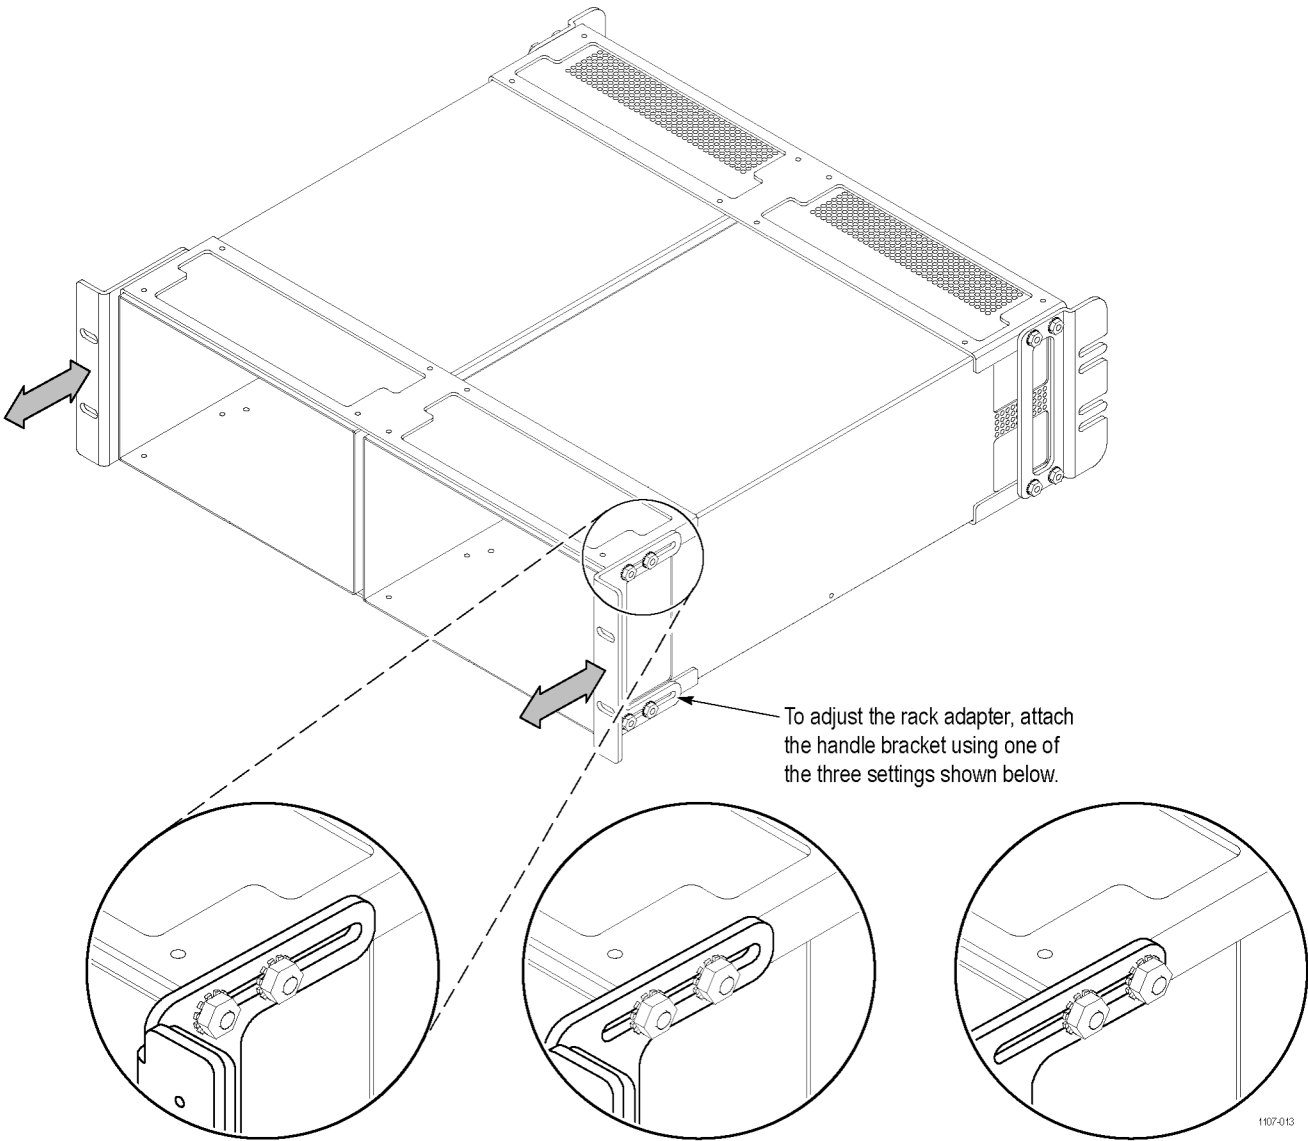

Figure 4: Adjusting the position of the handles
The rack adapter is marked with the word "TOP" to indicate which side of the adapter should face up. (See Figure 4.)
1. If desired, you can adjust the position of the handle brackets to mount the adapter flush with other equipment in the rack. To do this, loosen the nuts that attach the handle brackets to the rack adapter, adjust the position of the handle brackets as desired, and then tighten the nuts securely. (See Figure 4.)